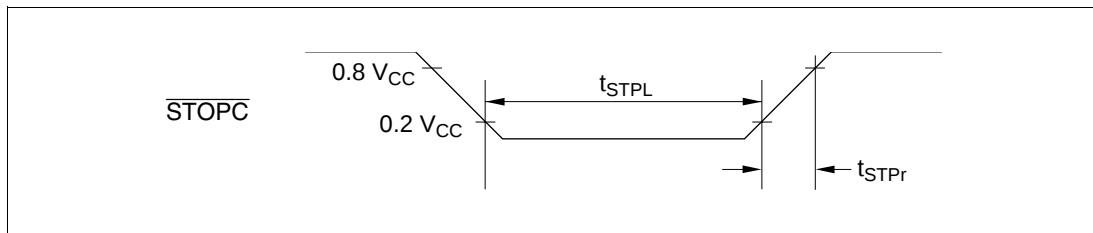

Figure 25-34 $\overline{\text{STOPC}}$ Timing (HD404369 Series)
6. See figure 25-34.
7. See figure 25-34.